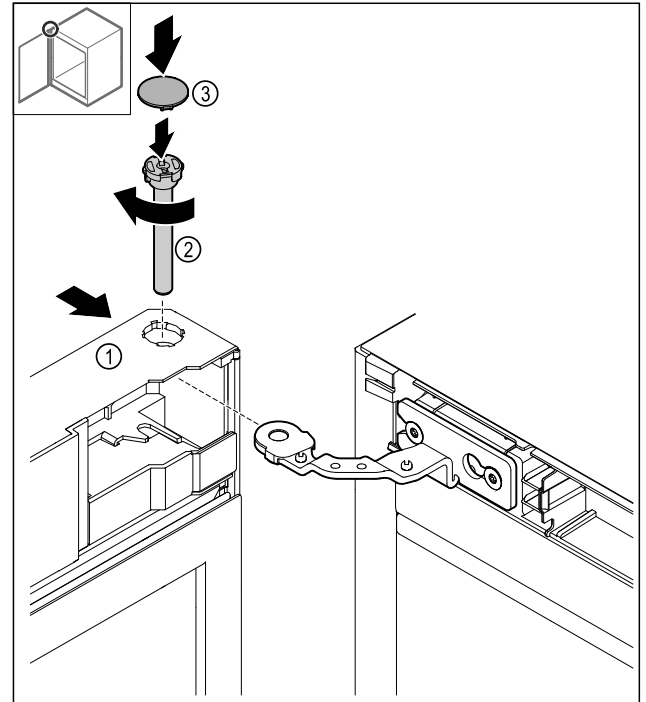

Fig. 47
- Push the door Fig. 47 (1) up onto the hinge.
- Insert the pin Fig. 47 (2) firmly screw it in clockwise.
- Put on the Fig. 47 (4) cover.